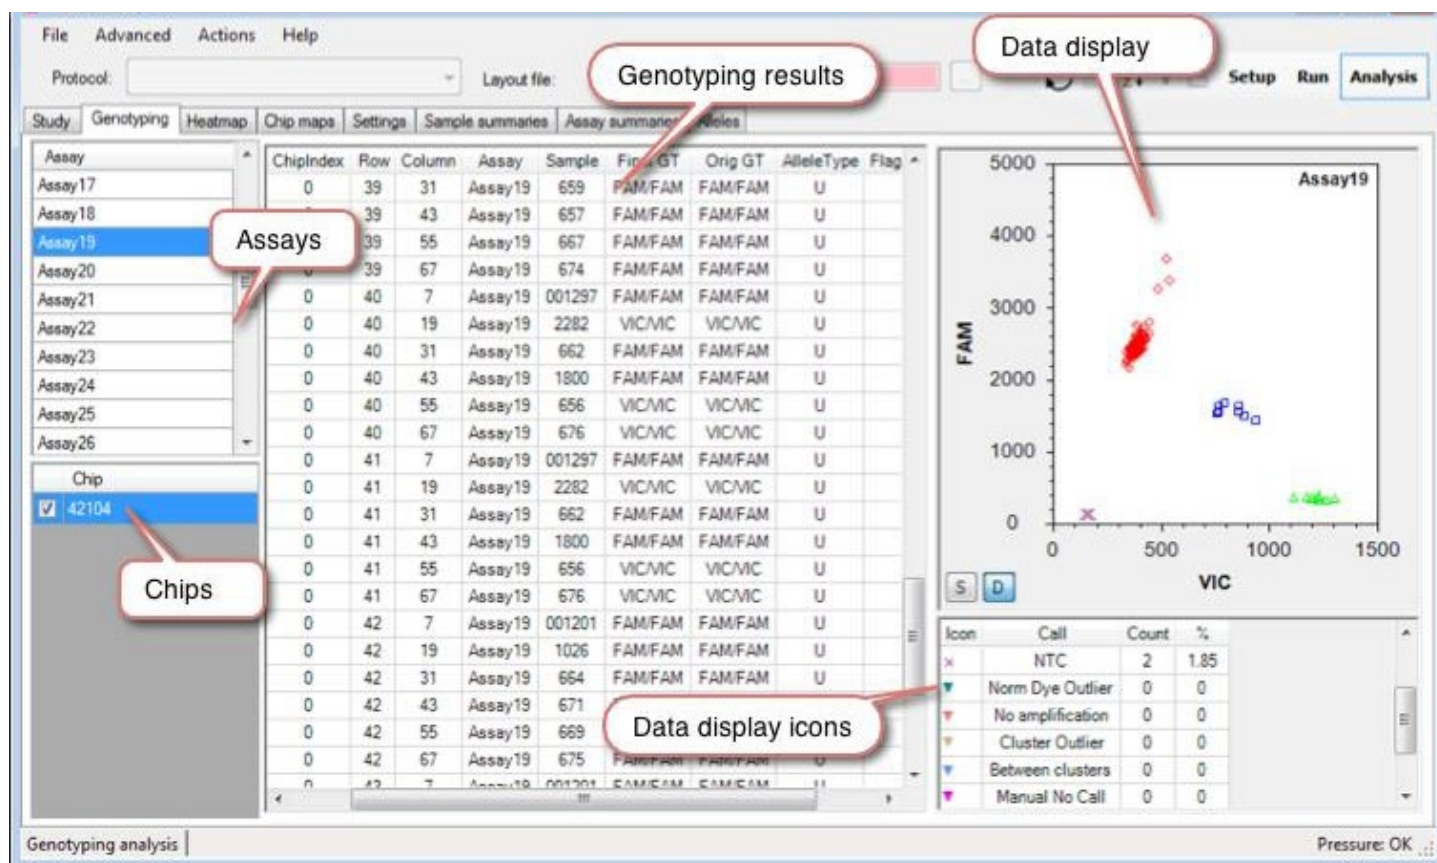

Figure 79. Example of Genotyping Results in the Genotyping tab.
- **Genotyping Results** is a tabular list of all genotyping results for the selected chips and assays. See the genotyping results chart below (Figure 79).